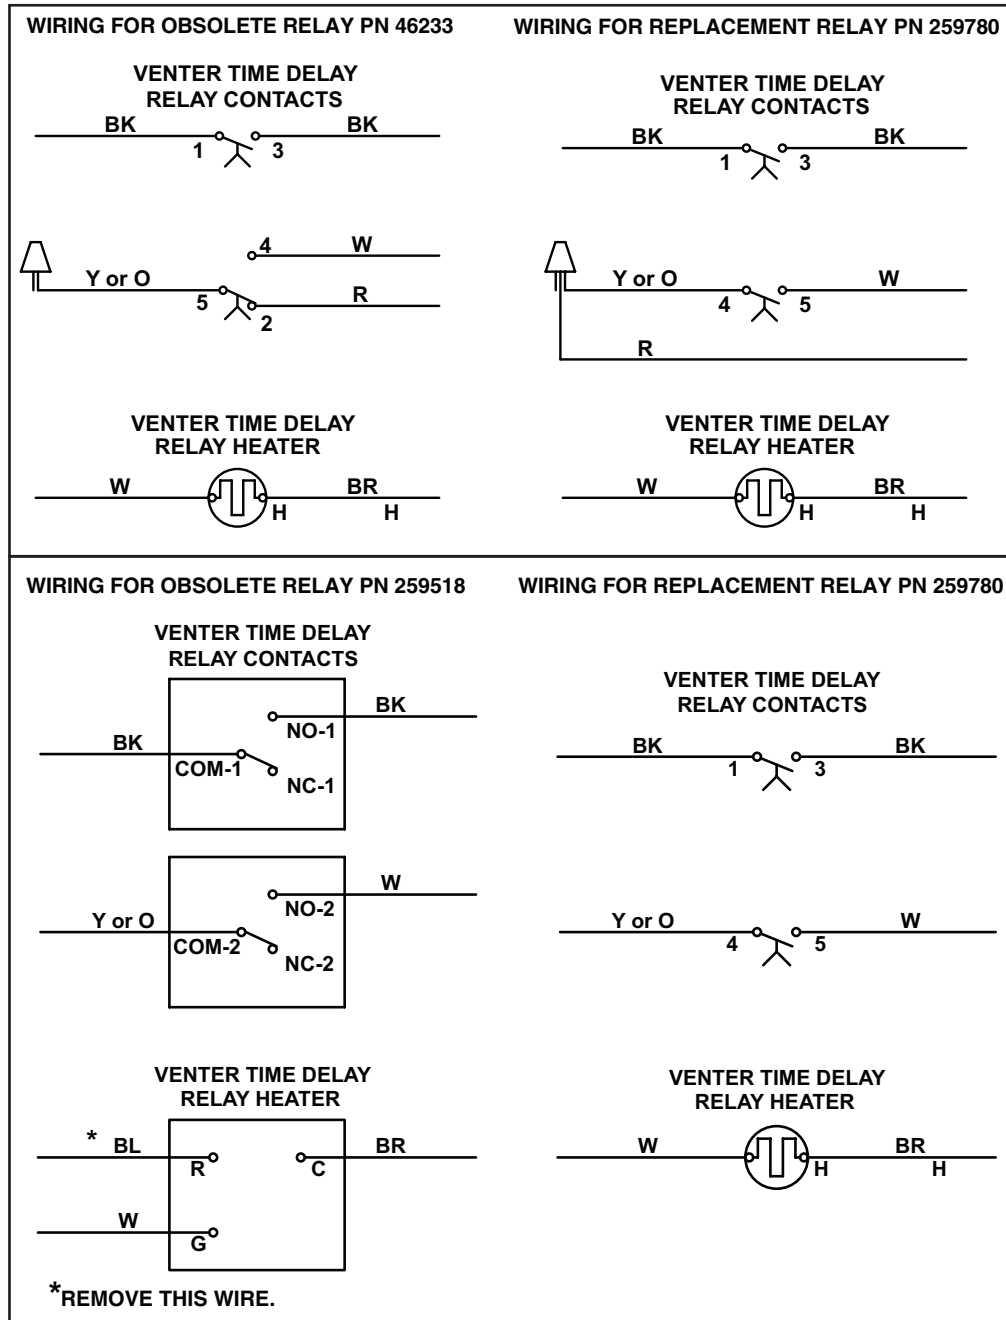

Figure 2. Wiring Connections for Model F or B Unit with Power Venter
- b. For model F and B units WITH power venter, wiring depends on relay being replaced. Connect wires in accordance with appropriate wiring diagram shown in Figure 2.